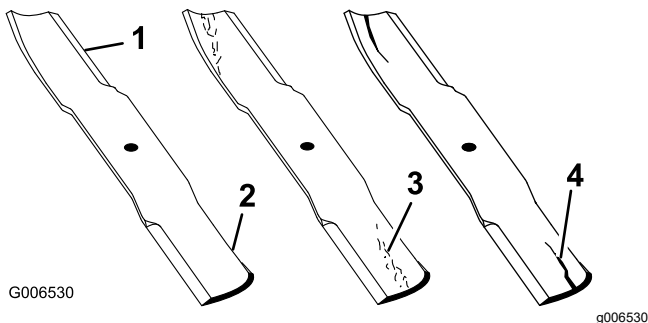

Figure 144
2. Examine the cutting ends of the blade carefully (especially where the flat and curved parts of the blade meet) as shown in Figure 144.
Note: Since sand and abrasive material can wear away the metal that connects the flat and curved parts of the blade, check the blade before using the mower. If you notice wear, replace the blade (Figure 144).